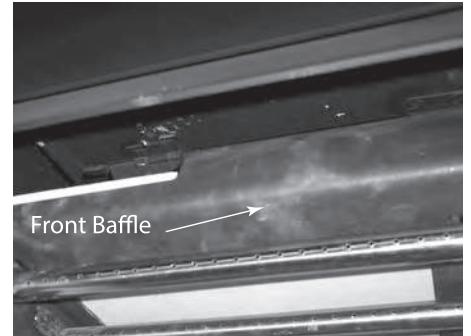

Figure 1
1. Remove the front baffle support by lifting it straight up to clean the registration pin on the left side, allowing the right side to come down and out. **See Figure 1 .**